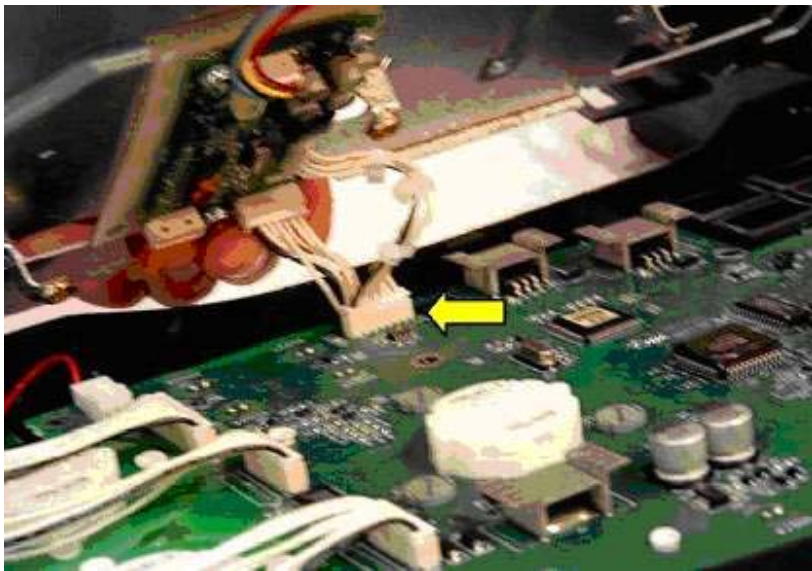

Figure 10 Connect Interceptor Circuit Display Harness
10. Connect Interceptor circuit display harness to the center circuit board (Figure 10).